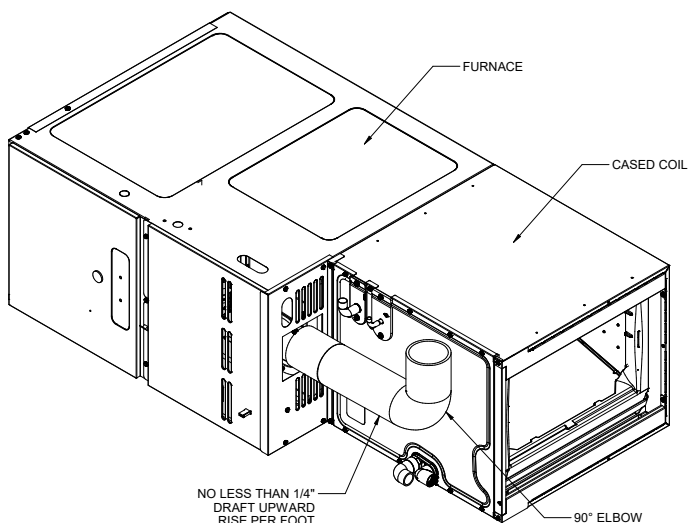

Figure 3B
5. In case of other cabinet sizes match up with 80% Furnace in Horizontal Right application, 2 qty of 90° elbow flue vent must be used. The horizontal run must be $\leq 75\%$ of the vertical rise and no less than $\frac{1}{4}$ " upward rise per foot (see Figure 3B).